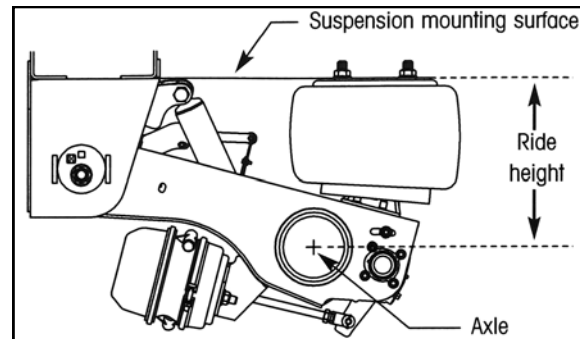

Figure 24. Measuring Ride Height
- a. Measure from the underside of the trailer frame to the top of the axle as shown in figure 24 below